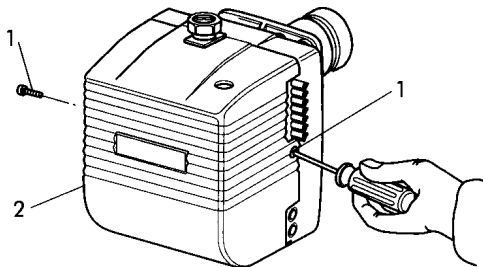

fig.1
To gain access to the main components, remove the cover, as shown in (Fig.1).
- Close the gas cock and disconnect the gas train. Unscrew the screws **1** and remove the cover **2** (fig. 1).